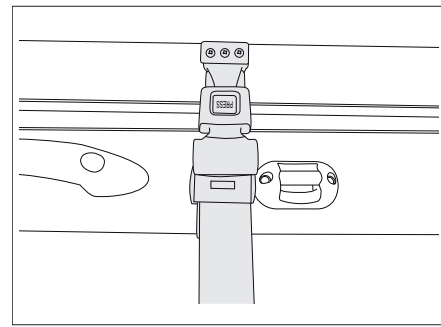

Fig. 153 Manual pull-down bed retaining belt
- Secure the pull-down bed to the roof by means of the retaining belt (Fig. 153).